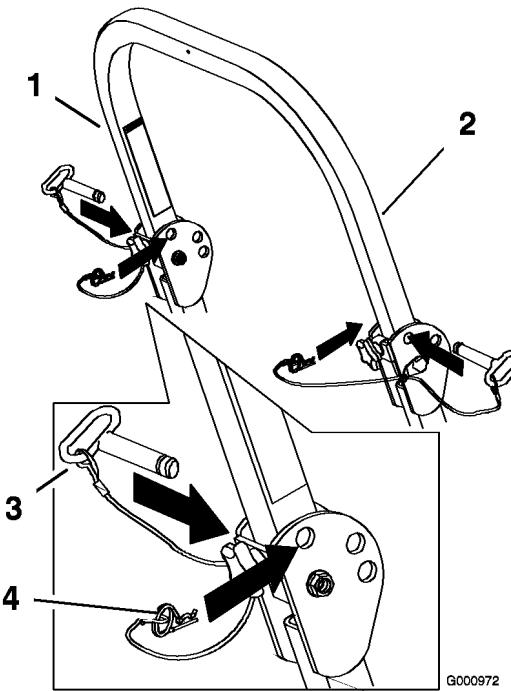

Figure 8
2. Remove the hairpin cotter pins and remove the two pins (Figure 8).
4. Install the two pins and secure them with the hairpin cotter pins (Figure 8).
- To raise the roll bar, remove the hairpin cotter pins and remove the two pins (Figure 8).
- Raise the roll bar to the upright position and install the two pins and secure them with the hairpin cotter pins (Figure 8).